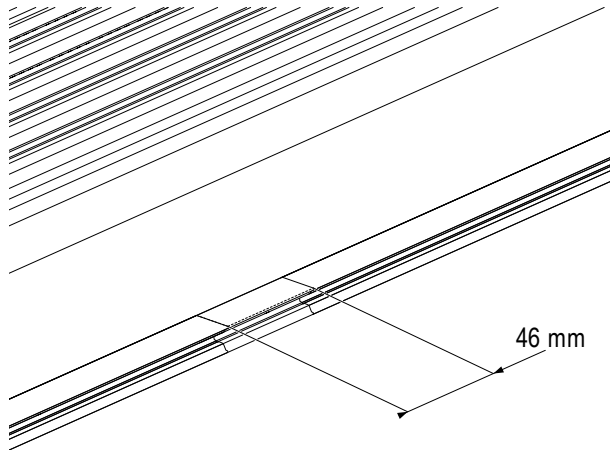

Fig. 94: Mark dimensions
- Mark the 46 mm dimension on the conductor rail at the desired point (see project-specific documents) and cut it out with a cutting tool (see Section 6.3.2.1) (see Fig. 94).